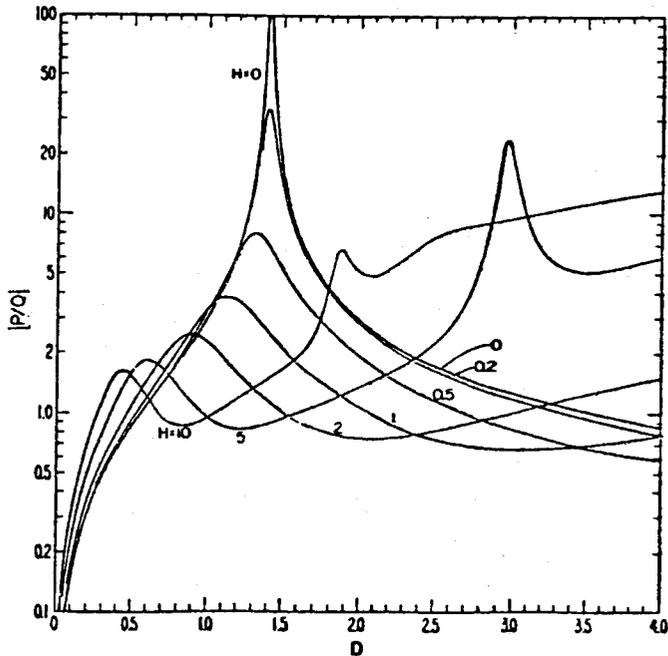

Figure 2. The ratio of the horizontal/vertical magnetic fields on the surface over a horizontal buried loop antenna.
The subject has been treated theoretically by J.R. Wait (5). Two graphs from the paper are shown here (Figs 2 & 3). The conventional method of measuring depth assumes $H = 0$, and P/Q is measured directly as $1/\text{Tangent}(\text{antenna angle at null})$. In the real world, as H increases (due to increasing depth of transmitter, or increasing conductivity of the ground) the null angle of the antenna is harder to detect as the phase angle of P/Q deviates from 0° or 180° (Fig 3). Moreover, the value of P/Q estimated from the angle of minimum signal gives increasing error in the depth estimate if it is used in the equations which assume $H = 0$. (Fig. 2)